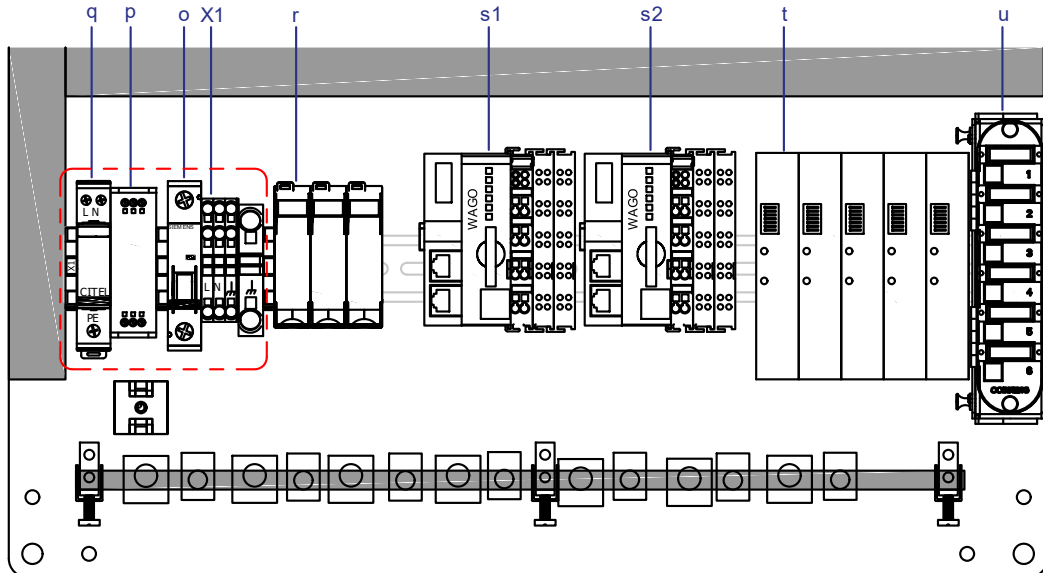

Fig 8 Connection module, details
Danger to life! The area marked red in Fig. 8 below is energized.
2. Connect the cable(s) ether to the overvoltage arrester(s) (q in Fig. 8 on p. 12) or to the Ethernet switch (k in Fig. 5 on p. 11).